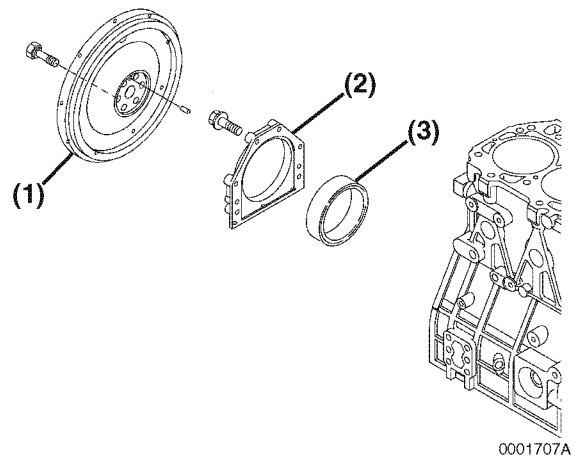

Figure 6-77
- If removed, install a new seal (Figure 6-77, (3)) in the rear oil seal housing.
- Align the seal housing (Figure 6-77, (2)) with the two dowel pins
5. Align the flywheel (Figure 6-77, (1)) to the crankshaft. Install the flywheel to the crankshaft bolts. Tighten the bolts to the specified torque.